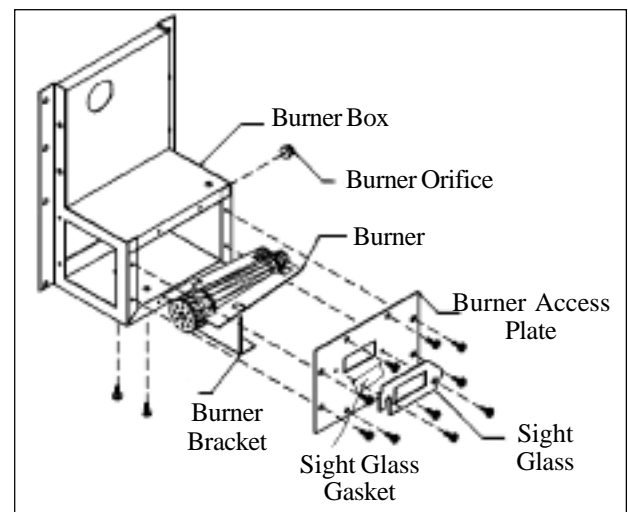

FIGURE 13
- d. Remove burner box cover. See Figure 13.
- e. Remove two (2) screws holding burner to burner bracket. See Figure 13.